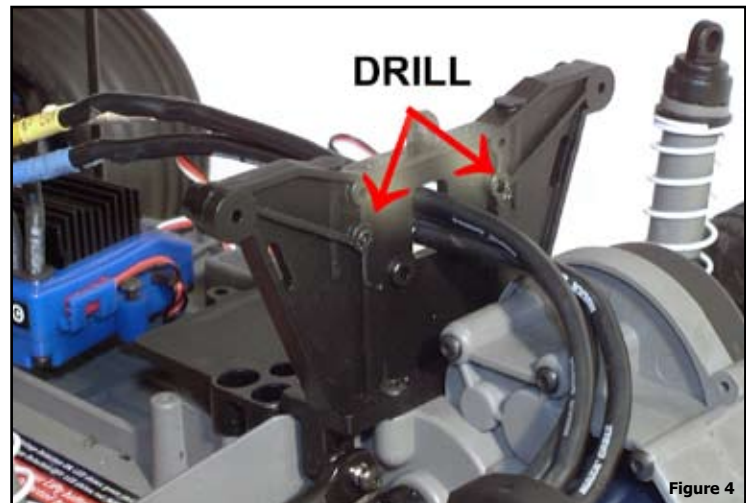

Figure 4
3. Remove the speed control from its mount and move it away from the rear shock tower. With a 1/8" bit, drill out the two lower holes in the shock tower, as shown in *Figure 4*.